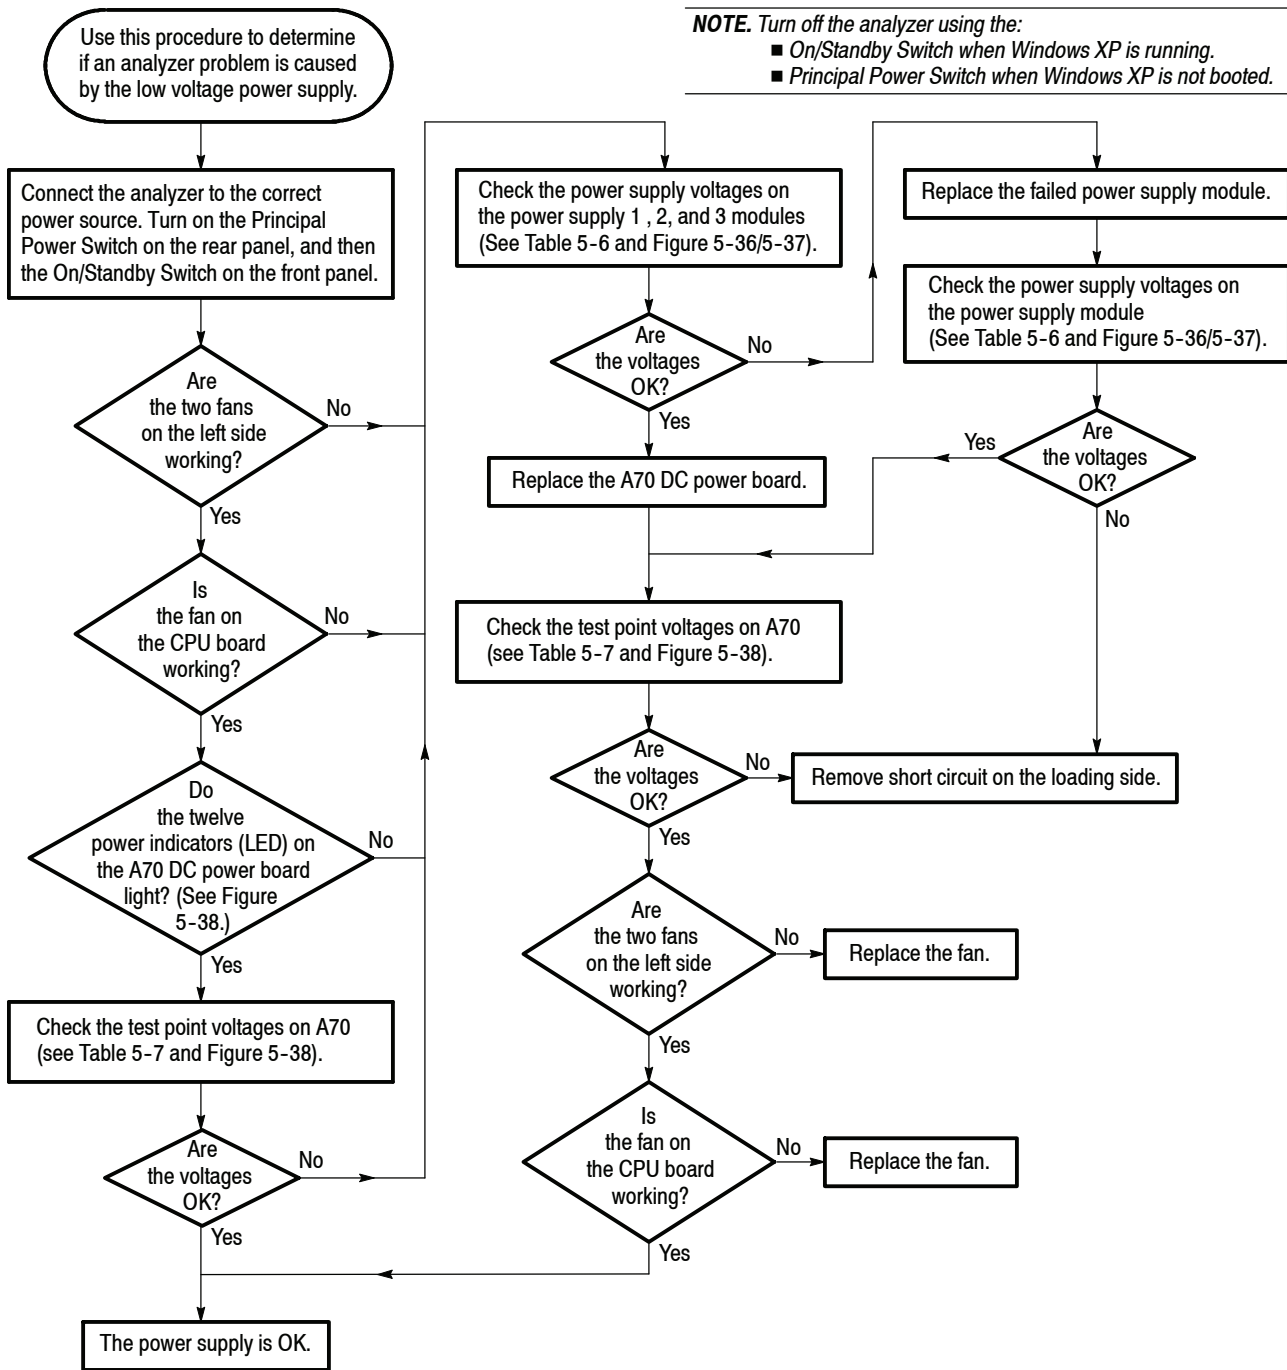

Figure 5-32: Troubleshooting procedure 1 — Power supply system
- Figure 5-32: Troubleshooting Procedure 1 — Power supply system